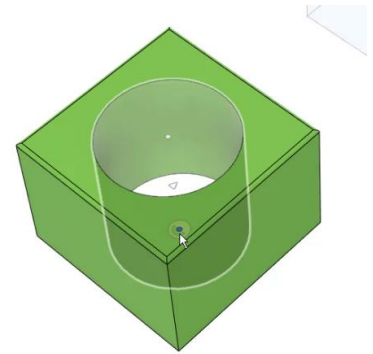

Figure 7. Define Snap reference
7. Show the Cylindrical component and define a Cylindrical Joint using the Assemble > Joint tool. Select the Snap reference at the lower point on the inside bore as depicted in Figure 7.